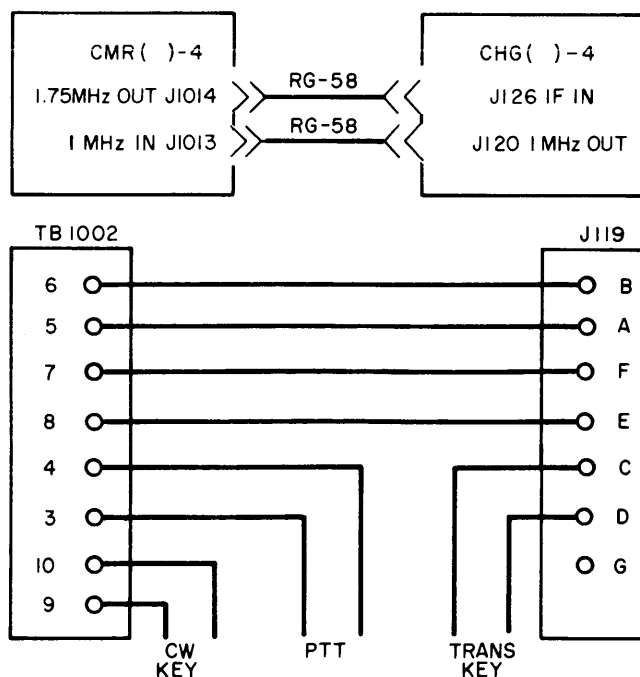

Figure 5-4. 1.25 MHz Generator, Test Setup
(4) Remove generator input and set 10 kHz switch to position 5. Remove short from pins H and E. Rotate 100 kHz switch from position 0 to position 9. Output should be a minimum of 0.2 volt peak-to-peak from 10.0 to 10.9999 MHz. Remove 47-ohm resistor from pins 12 and 13. Replace translator Z112 into J112.
j. 1.25 MHz GENERATOR Z109. (See figure 5-4.) Align the 1.25 MHz generator as follows:
(1) Interconnect an aligned CMR()-4 (or 1.75 MHz source) and the CHG()-4 under test as shown in figure 5-4.